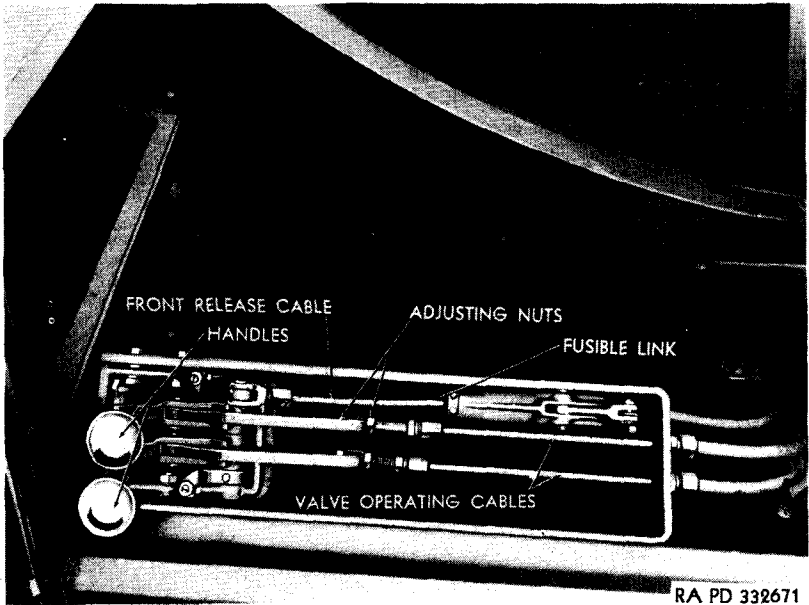

Figure 57—Emergency Valve Operator
56. EMERGENCY-VALVE OPERATOR (fig. 57).